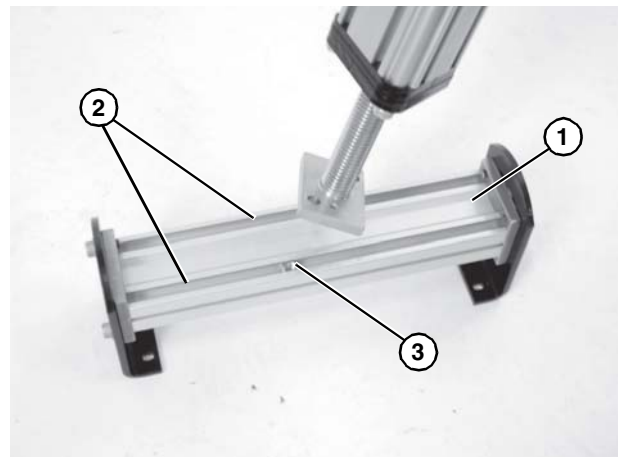

Figure 7
- Position the conveyor mounting bracket and crossmember tube assembly (Figure 7, item 1) so there is access to the underside t-slots (Figure 7, item 2) and hex nuts (Figure 7, item 3).